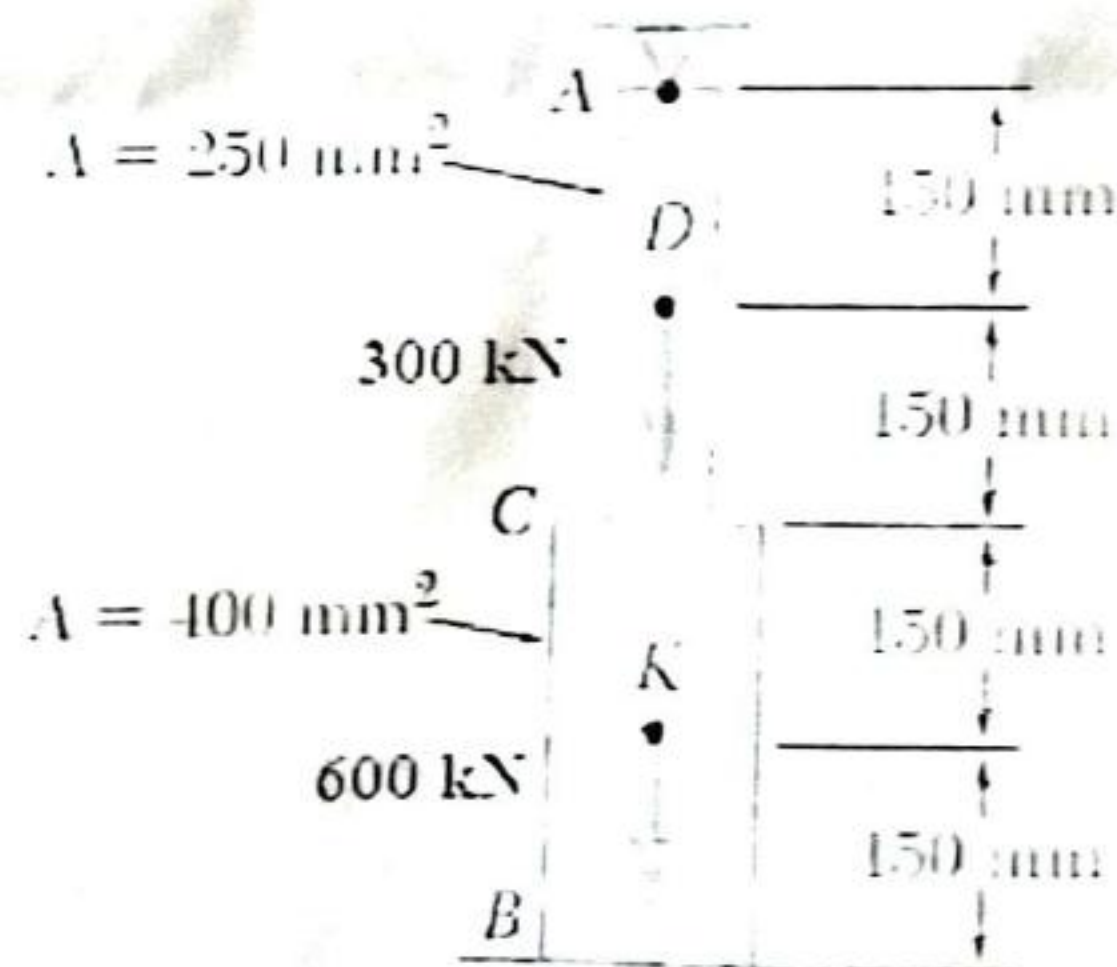

Fig. 3
5. Determine the reactions at A and B for the steel bar and loading shown in Fig. 3, assuming a close fit at both supports before the loads are applied.